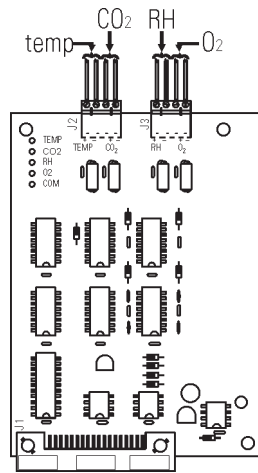

Figure 6-4. Analog Output Board
3. Carefully slide out electronics drawer and locate the Analog Output board (Figure 6-4).